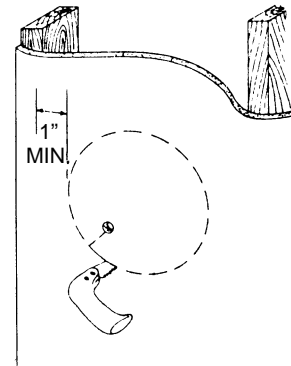

Fig. 2
1. Cut round or square hole in sheathing at desired location in wall. Round holes should be $9\frac{1}{8}$ " in diameter. Square holes should be $9\frac{1}{8}$ " on a side. (See Figure 2.)
2. Working inside wall first, draw a circle 9 $\frac{1}{8}$ " in diameter at determined location. Be sure opening is at least one inch from studs. (See Figure 2.)